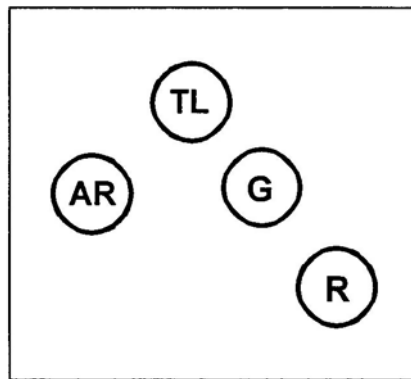
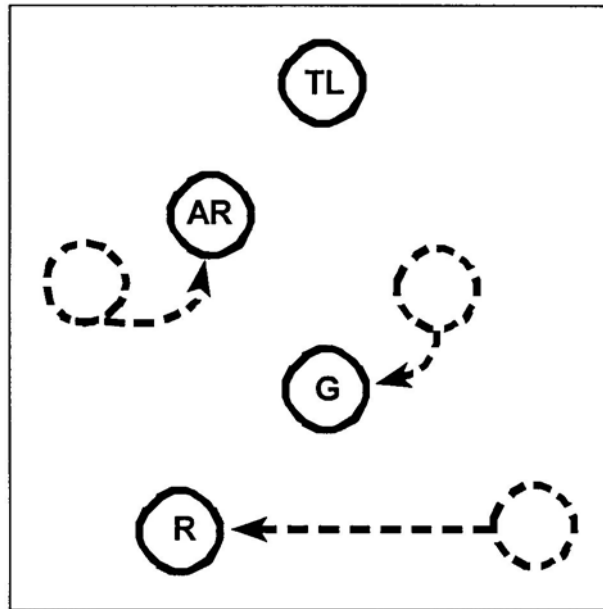
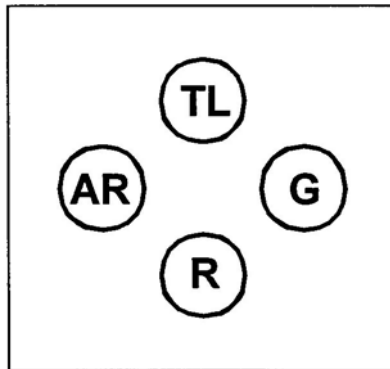
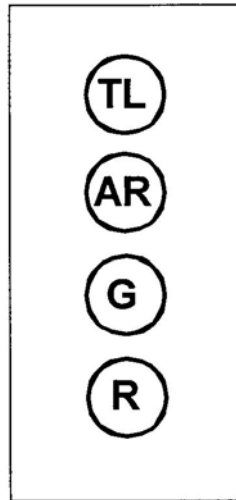

Figure 1. Fire team wedge.
Figure 2. Modified fire team wedge.
Figure 3. Fire team diamond.
Figure 4. Fire team file.
1. Fire team formations describe the relationship of the soldiers in the fire team to each other. Standard fire team formations are the wedge (Figure 1), modified wedge (Figure 2), diamond (Figure 3), and file (Figure 4).
- a. Fire team wedge (Figure 1). This is the basic fire team formation. It has the following characteristics:
- (1) Is easy to control.
- (2) Is flexible.
- (3) Allows immediate fires in all directions.
- (4) Provides all-round local security.
- b. Modified wedge (Figure 2). When rough terrain, poor visibility, or other factors reduce control of the wedge formation, the sides are closed up to (almost) a single file. When moving in less rugged terrain and control becomes easier, soldiers resume their original positions. The modified wedge can also be used for extended periods when traveling on roads or trails. It has the following characteristics:
- (1) Is easier to control in reduced visibility or rough terrain.
- (2) Provides less security to flanks than a wedge but more than a file.
- (3) Masks fires initially to the front and rear for the majority of the team.
- c. Fire team diamond (Figure 3). This formation is a variation of the wedge. It is most often used when the fire team is operating alone or is the lead security element (point) for a column or file. It has the same characteristics as a wedge except there is--
- (1) Reduced frontage.
- (2) Increased security to the rear.
- (3) Immediate fires in all directions, but one man's fires are always masked.
- d. Fire team file (Figure 4). When the fire team is not using a wedge or diamond formation, it uses the file. The characteristics of the file are as follows: